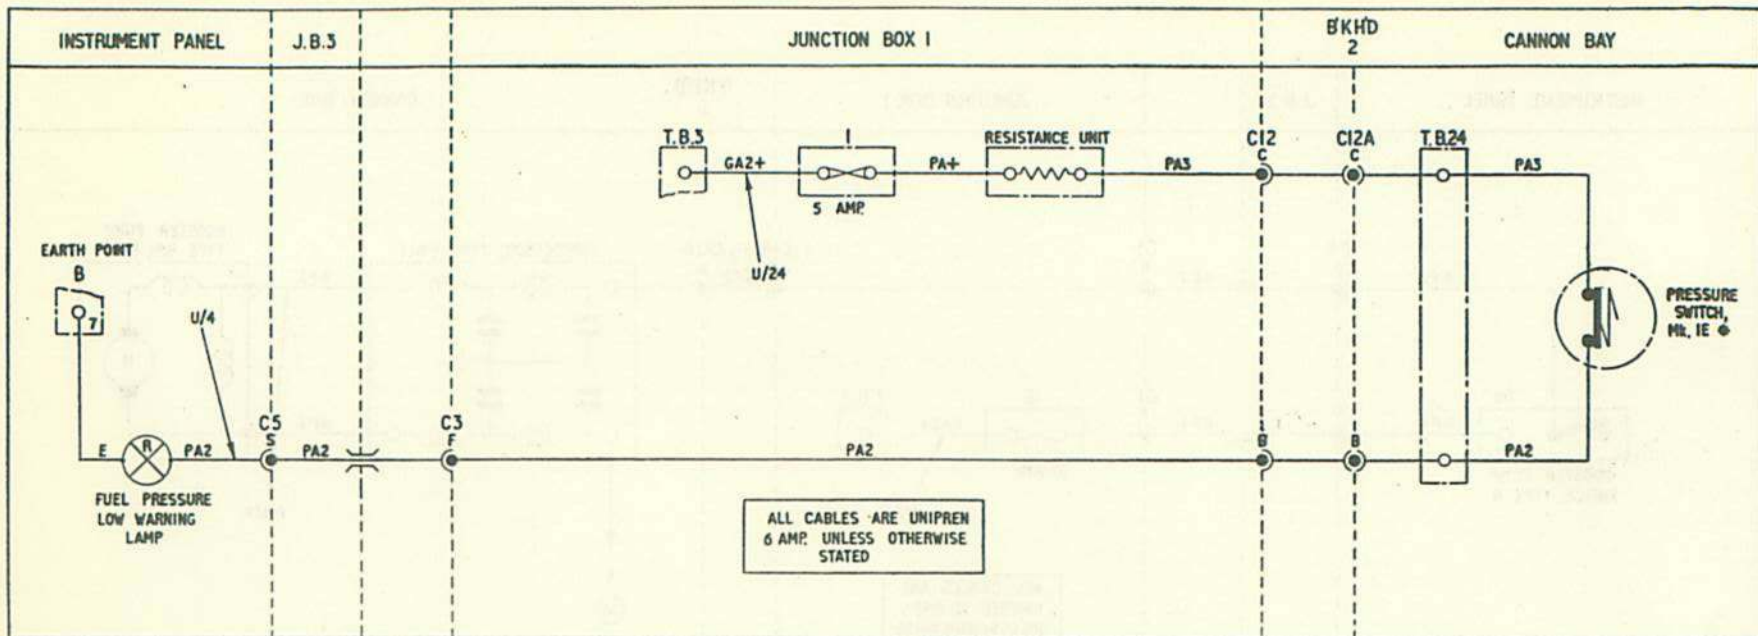

Fig. 4. Fuel pressure warning lamp—PA
19. The circuit is shown on Fig. 4, the lamp being supplied with d.c. via a resistor, inside J.B. 1, and the pressure switch. The resistor is included to limit the current flow across the pressure switch contacts. A 6-volt filament lamp is used in the circuit.